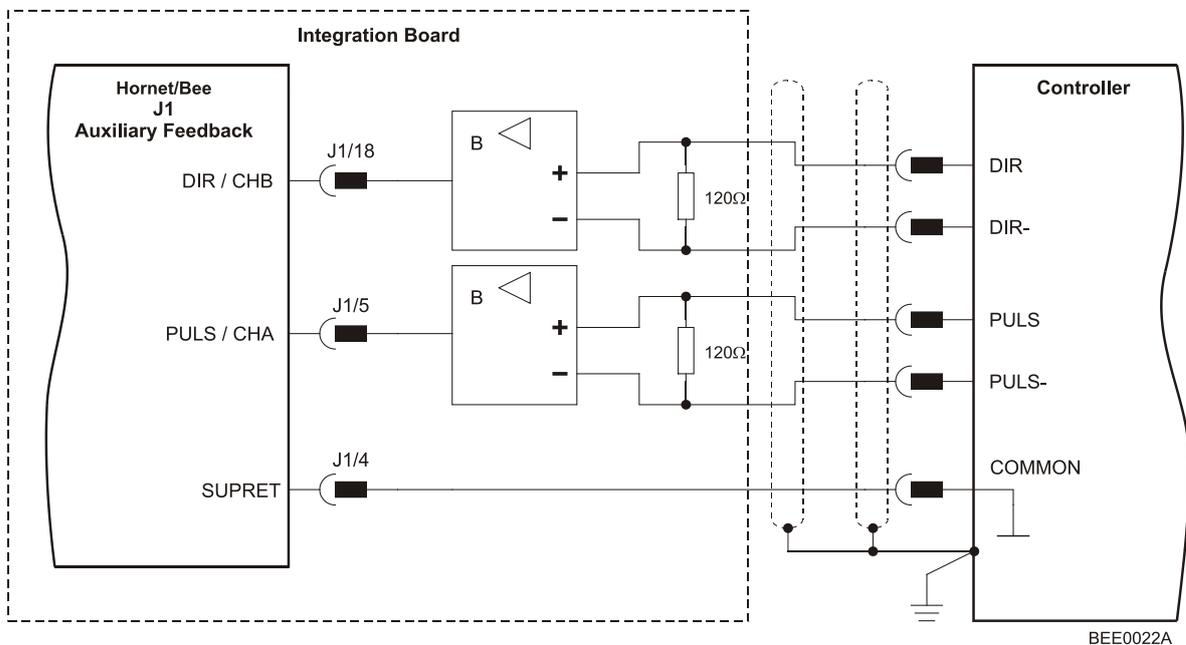

Figure 26: Pulse-and-Direction Auxiliary Encoder Input – Differential Connection Diagram
**Note:** The Hornet/Bee's Auxiliary Feedback is single-ended. When mounted on an integration board, circuitry can be added to make it differential (Figure 26).